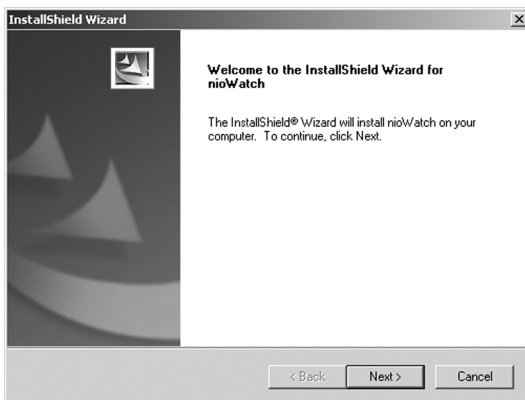

Figure 33
1. Click **"Next"** on the Welcome Screen of the BARCO NioWatch InstallShield Wizard (figure 33) to begin the installation or click **"Cancel"** to cancel and return to the BarcoMed Product Install Wizard.